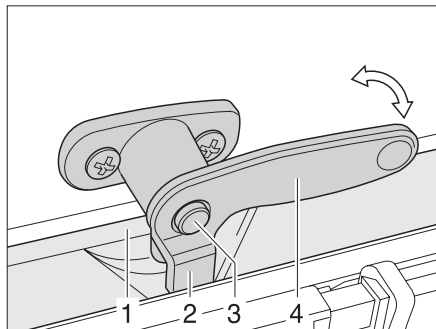

Fig. 34 Catch lever with safety knob in "closed" position
- ▶ If it exists, press the safety knob (Fig. 34,3) down and hold it.